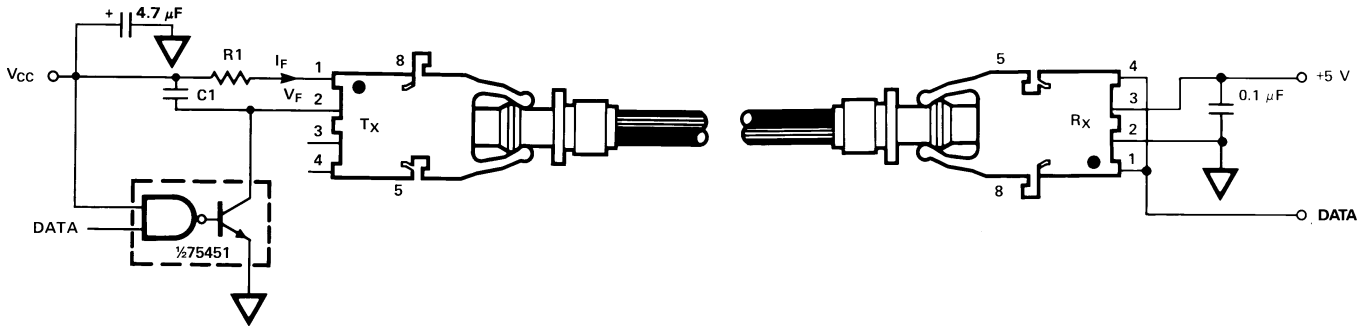

Figure 11. Required 1 MbD Interface Circuit.
The HFBR-25X2 receiver can not be overdriven when using the required interface circuit shown in Figure 11.
- The LED drive circuit of Figure 11 is required for 1 MBd operation of the HFBR-25X2/25X4.